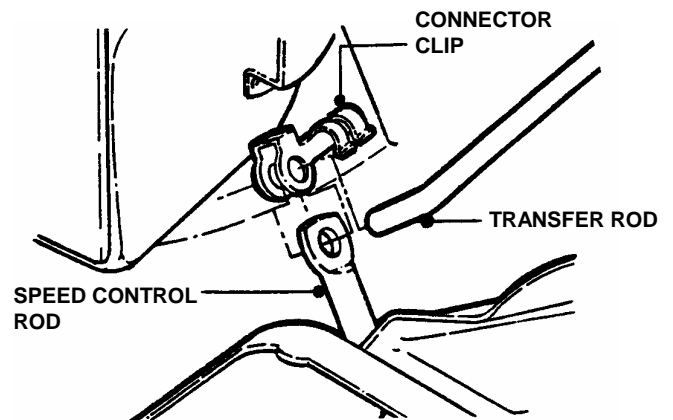

FIGURE 4.11
1. Using a small flat blade screwdriver, free the clip from the transfer rod. Then remove the transfer rod from the clip and the speed control rod. See Figure 4.11.
1. Using a small flat blade screwdriver, free the clip from the transfer rod. Then remove the transfer rod from the clip and the speed control rod. Refer to Figure 4.11.